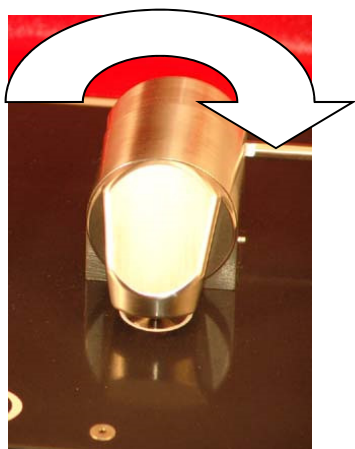

Figure 4. TumbIIR with accessory window facing down
In the sample analysis mode, the TumbIIR is rotated such that the accessory optical window is facing down towards the 4500t FTIR sample mounting area. In this position, infrared (IR) energy passes through the sample making measurement possible. Be sure to rotate the TumbIIR arm completely around until it reaches the detent and snaps into position. This detent keeps the accessory stationary during sample measurement (see Figure 4).
- 4 Close the device by rotating the arm clockwise until it clicks into place (see Figure 4).